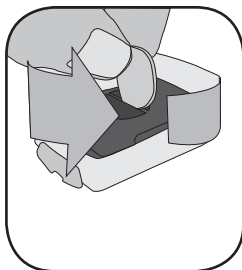

Figure 18- Removing battery cover
3. Insert a large coin into the slot and rotate in a counter-clockwise direction about one-quarter turn (Figure 18).